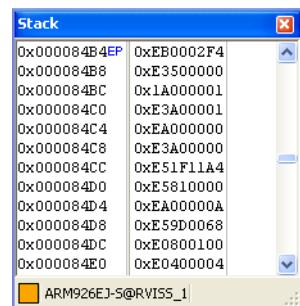

Figure 13-43 Expression Pointer in the Stack view
4. Click **Set** to confirm your choice and close the address prompt box. The new start address is marked by *Expression Pointer* (EP), located at the bottom of the stack, shown in Figure 13-43 on page 13-60.
The new start address is marked by *Expression Pointer* (EP), located at the bottom of the stack, shown in Figure 13-43.
The Stack view changes to show the Stack at the new start address obtained after re-evaluating the expression. The new start address is marked by *Expression Pointer* (EP), located at the bottom of the stack, shown in Figure 13-43 on page 13-60.